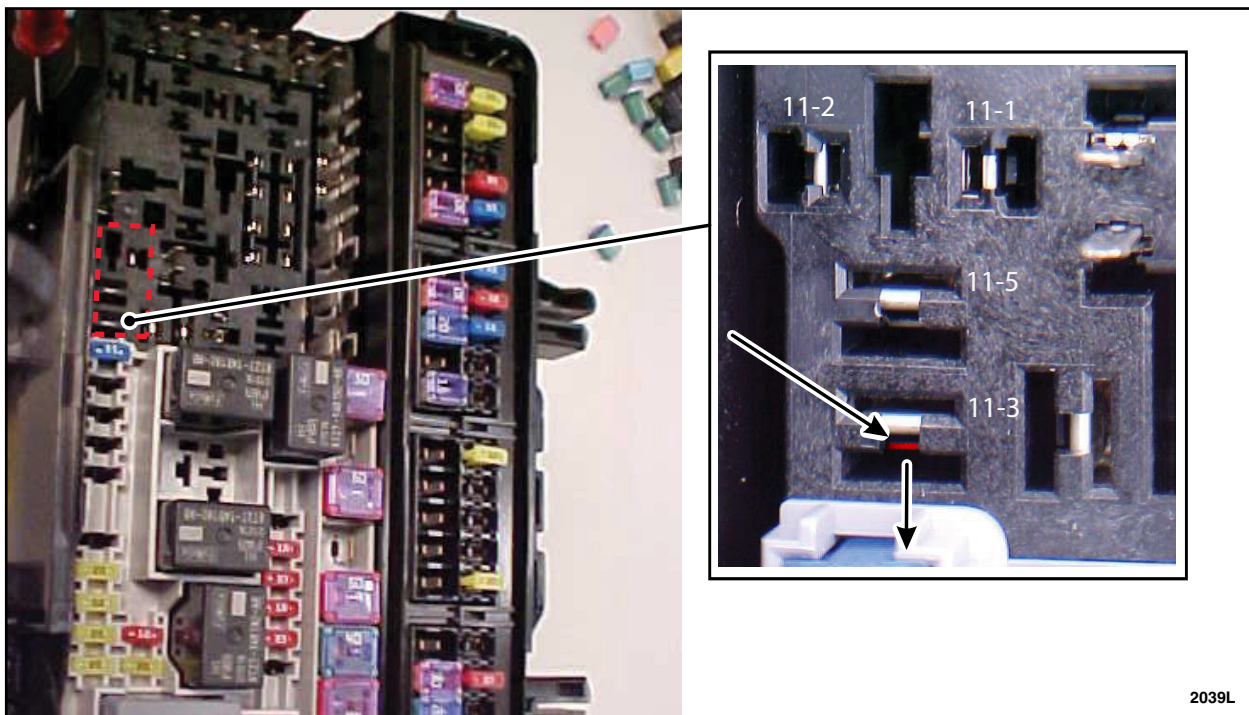

FIGURE 9
7. Using a terminal removal tool, remove the wire terminal from the R11 relay cavity 11-3 (blue/red wire). See Figure 9.